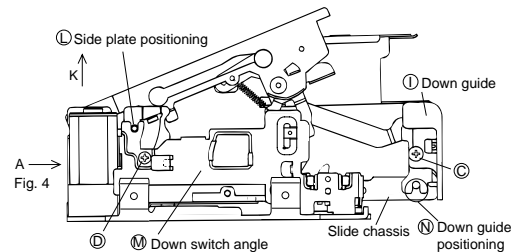
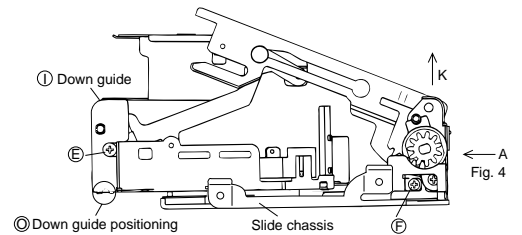

Fig. 2
Fig. 3
- (3) Remove the screws (C) and (E) shown in Fig. 2 and Fig. 3, and remove the Down guide (I).
- (4) Remove the screws (D), (F), (G), and (H) shown in Fig. 2, 3 and 4, raise the side plate (J) in the direction K to remove it.
Before fitting the screws (G) and (H) make sure that the side plate positioning section (L) engages with the down switch angle in Fig. 2.
- Note) When lowering the cassette controller assembly in the direction contrary to K, place the drum motor FPC between the side plate (J) and the top cover (R). At this time be careful so that FPC is not damaged. Take care so that the drum is not damaged.
- (2) In Fig. 2 fit the screws (D).
- (3) In Fig. 3 fit the screw (F).
- 1) In Fig. 2 and Fig. 3 engage the slide chassis down guide positioning sections (N) and (O) with the down guide, install with the screws (C) and (E).